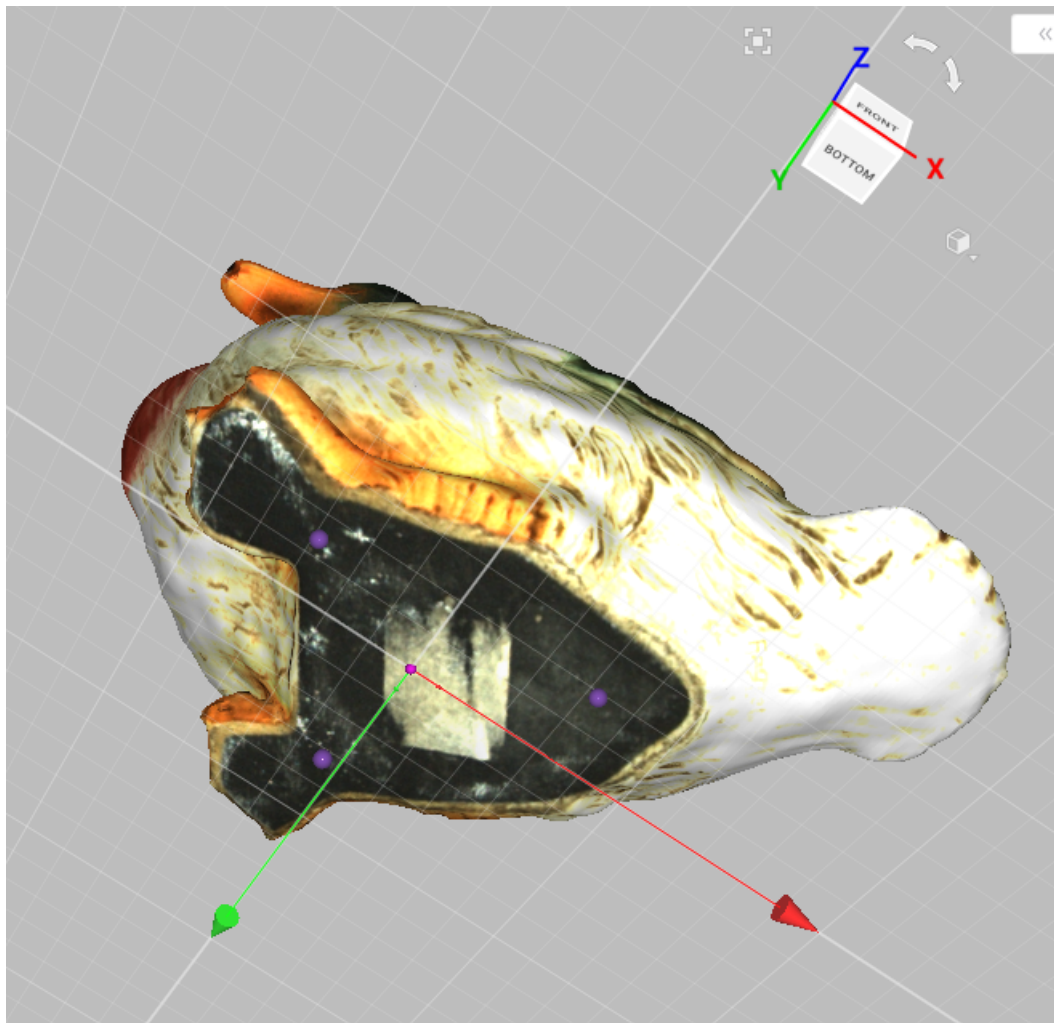

Figure 155: Positioning the model in the global coordinate system.
5. Use \mathbb{LMB} to specify at least three points on the surface; the plane will automatically pass through their center of mass (see Figure 155). The following conditions will then apply: